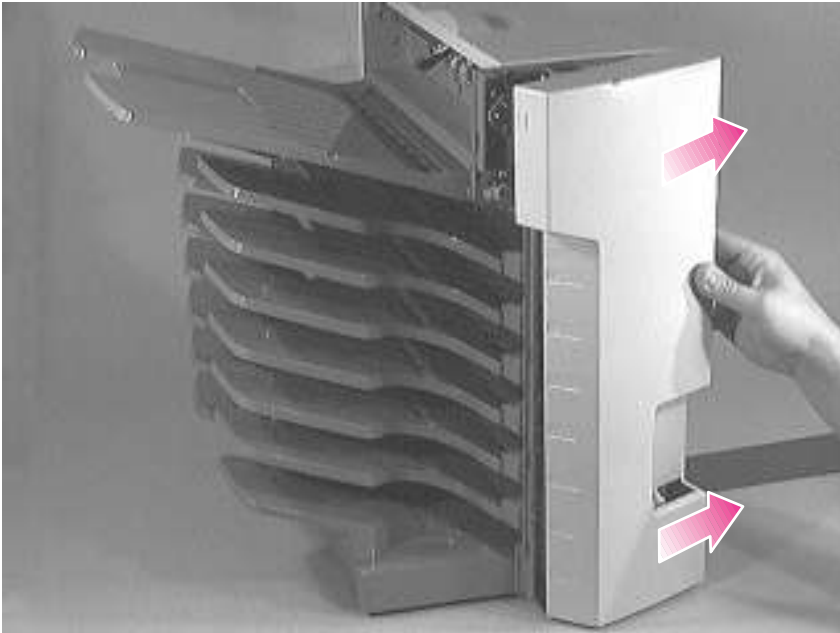

Figure 6-115 Front cover (3 of 3)
- 4 To clear the handle, rotate the Front Cover to the right, and remove it as shown in figure 6-115.